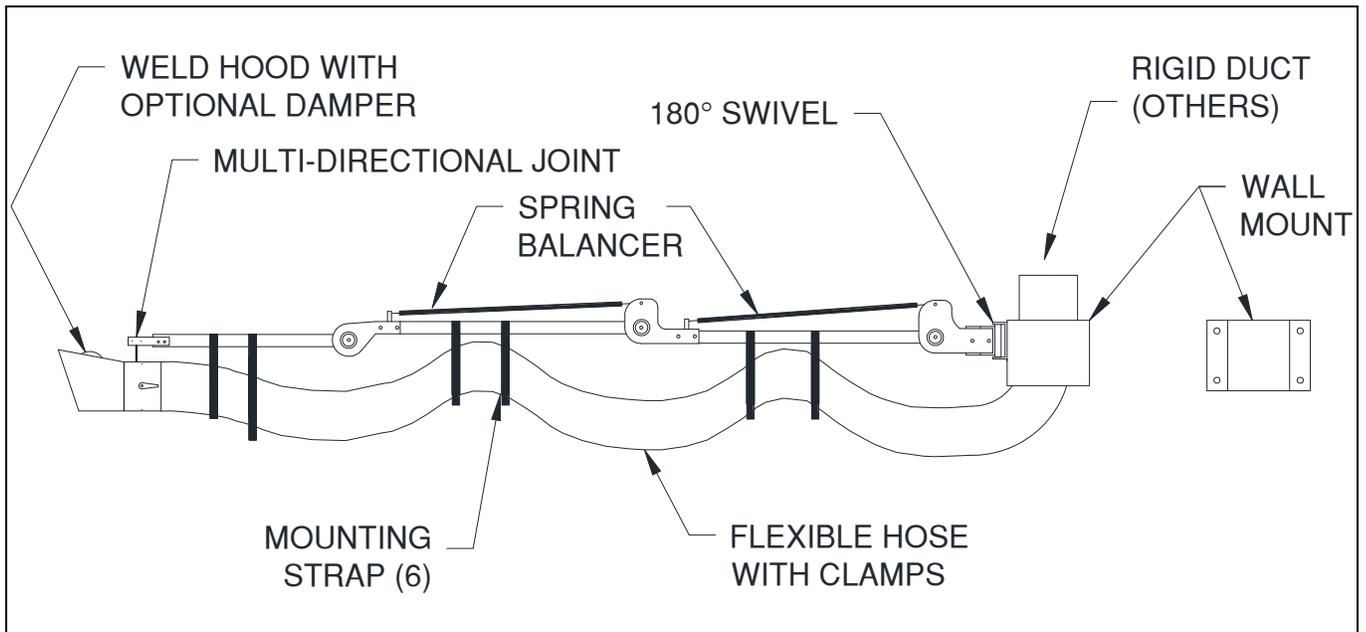

FIG 1
Note: FIG 1 above is typical of a three section arm assembly. The entire middle arm section and middle arm joint is deleted for arms with only two sections.
2. Attach the arm assembly to the wall mount by bolting the end of the 180° swivel into the bracket on the front of the wall bracket. Once attached, the arm should appear similar to FIG 1.